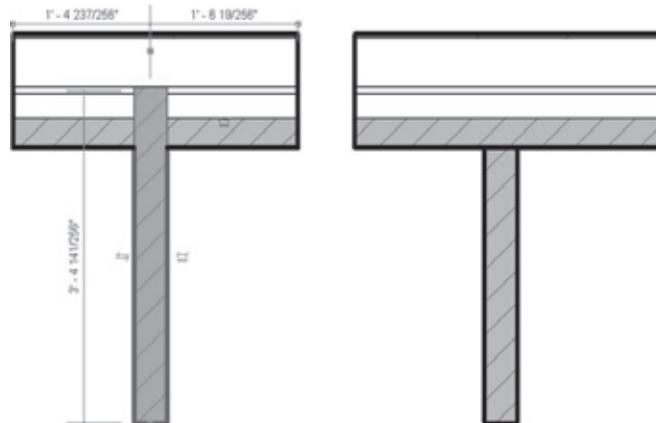

Figure 6.8
*Disallow Join* is another tool designed to provide more flexibility in wall-join behavior. If you select a partition wall that cleans up with your exterior wall but that isn't the desired behavior for that partition wall, you can right-click the blue control dot at the end of the wall and select *Disallow Join* from the context menu. Doing so breaks the autojoin cleanup. Figure 6.8 shows the walls intersecting in a *Disallow Join* condition.